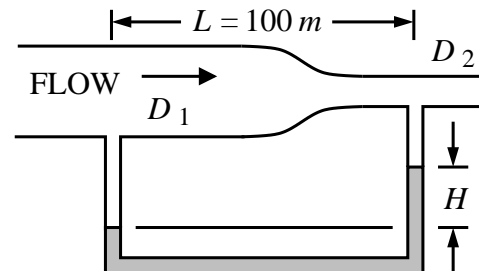

Fig. 3: Oil flow in a pipe.
- (10 pts) Oil flows steadily in a horizontal pipe of constant diameter $D_1 = 0.2\text{ m}$ at an average velocity of $\bar{u}_1 = 1\text{ m}/\text{s}$ (Fig. 3). Oil viscosity is $\nu = 0.001\text{ m}^2/\text{s}$ and the flow is fully-developed. The flow eventually reaches a smooth contraction and enters into a smaller pipe of diameter $D_2 = 0.1\text{ m}$, quickly becoming fully developed. Determine the respective friction factors f_1 and f_2 in the larger and smaller pipes.
mercury manometer (also shown in Fig. 3), whose fluid density is $\rho_m = 13500 \text{ kg/m}^3$. Here, the contraction is halfway between the static ports and is very short compared to the overall length of $L = 100 \text{ m}$. Therefore, taking as a first approximation that f_1 applies over the first 50 m of pipe length and f_2 applies over the subsequent 50 m of length, determine the manometer reading, H . Gravitational acceleration is $g = 9.8 \text{ m/s}^2$ and oil density is $\rho_o = 900 \text{ kg/m}^3$. From a design perspective, comment whether this manometer configuration would be a good method for measuring pressure drop.